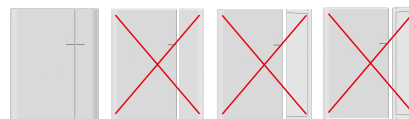

Figure 4
3. Use provided double-sided tape on the magnet. Make sure the alignment of both sensor and magnet are facing each other (Figure 4). Press firmly and hold in place for a few seconds. Secure it with silicone if needed.